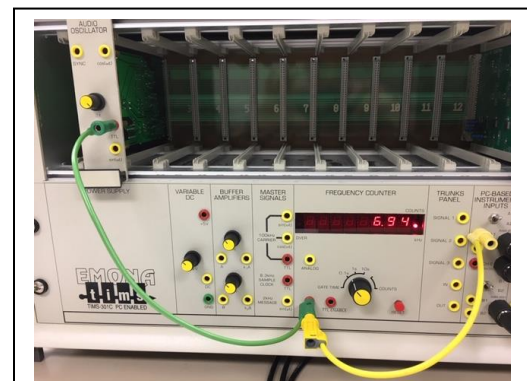

Fig 2 The oscillator is connected to the frequency counter and the scope.
- Also connect the AUDIO OSCILLATOR TTL output to Scope ChA. See Figure 2.